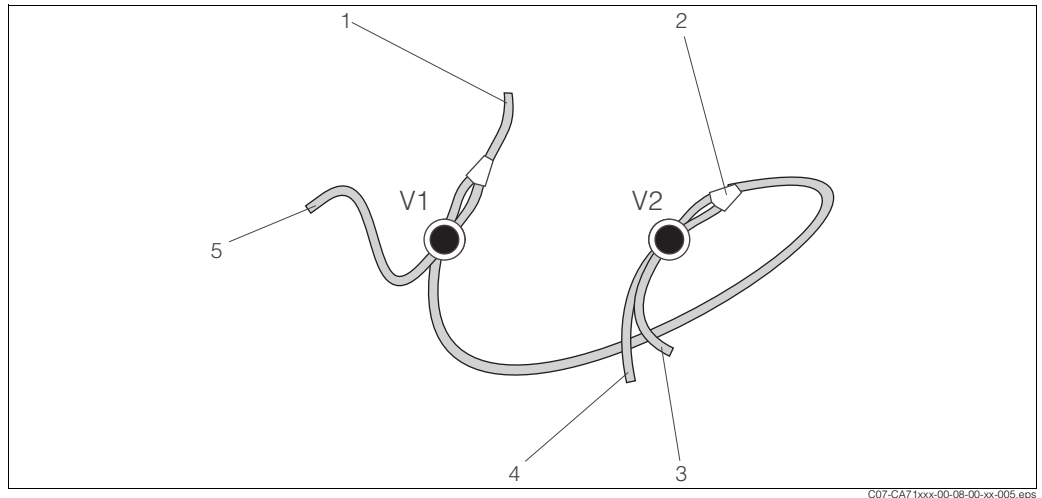

Fig. 15: Valves and valve hoses
3. Replace the new pump hoses in the reverse sequence of operations. Ensure that the hoses are connected correctly (→ Fig. 15).